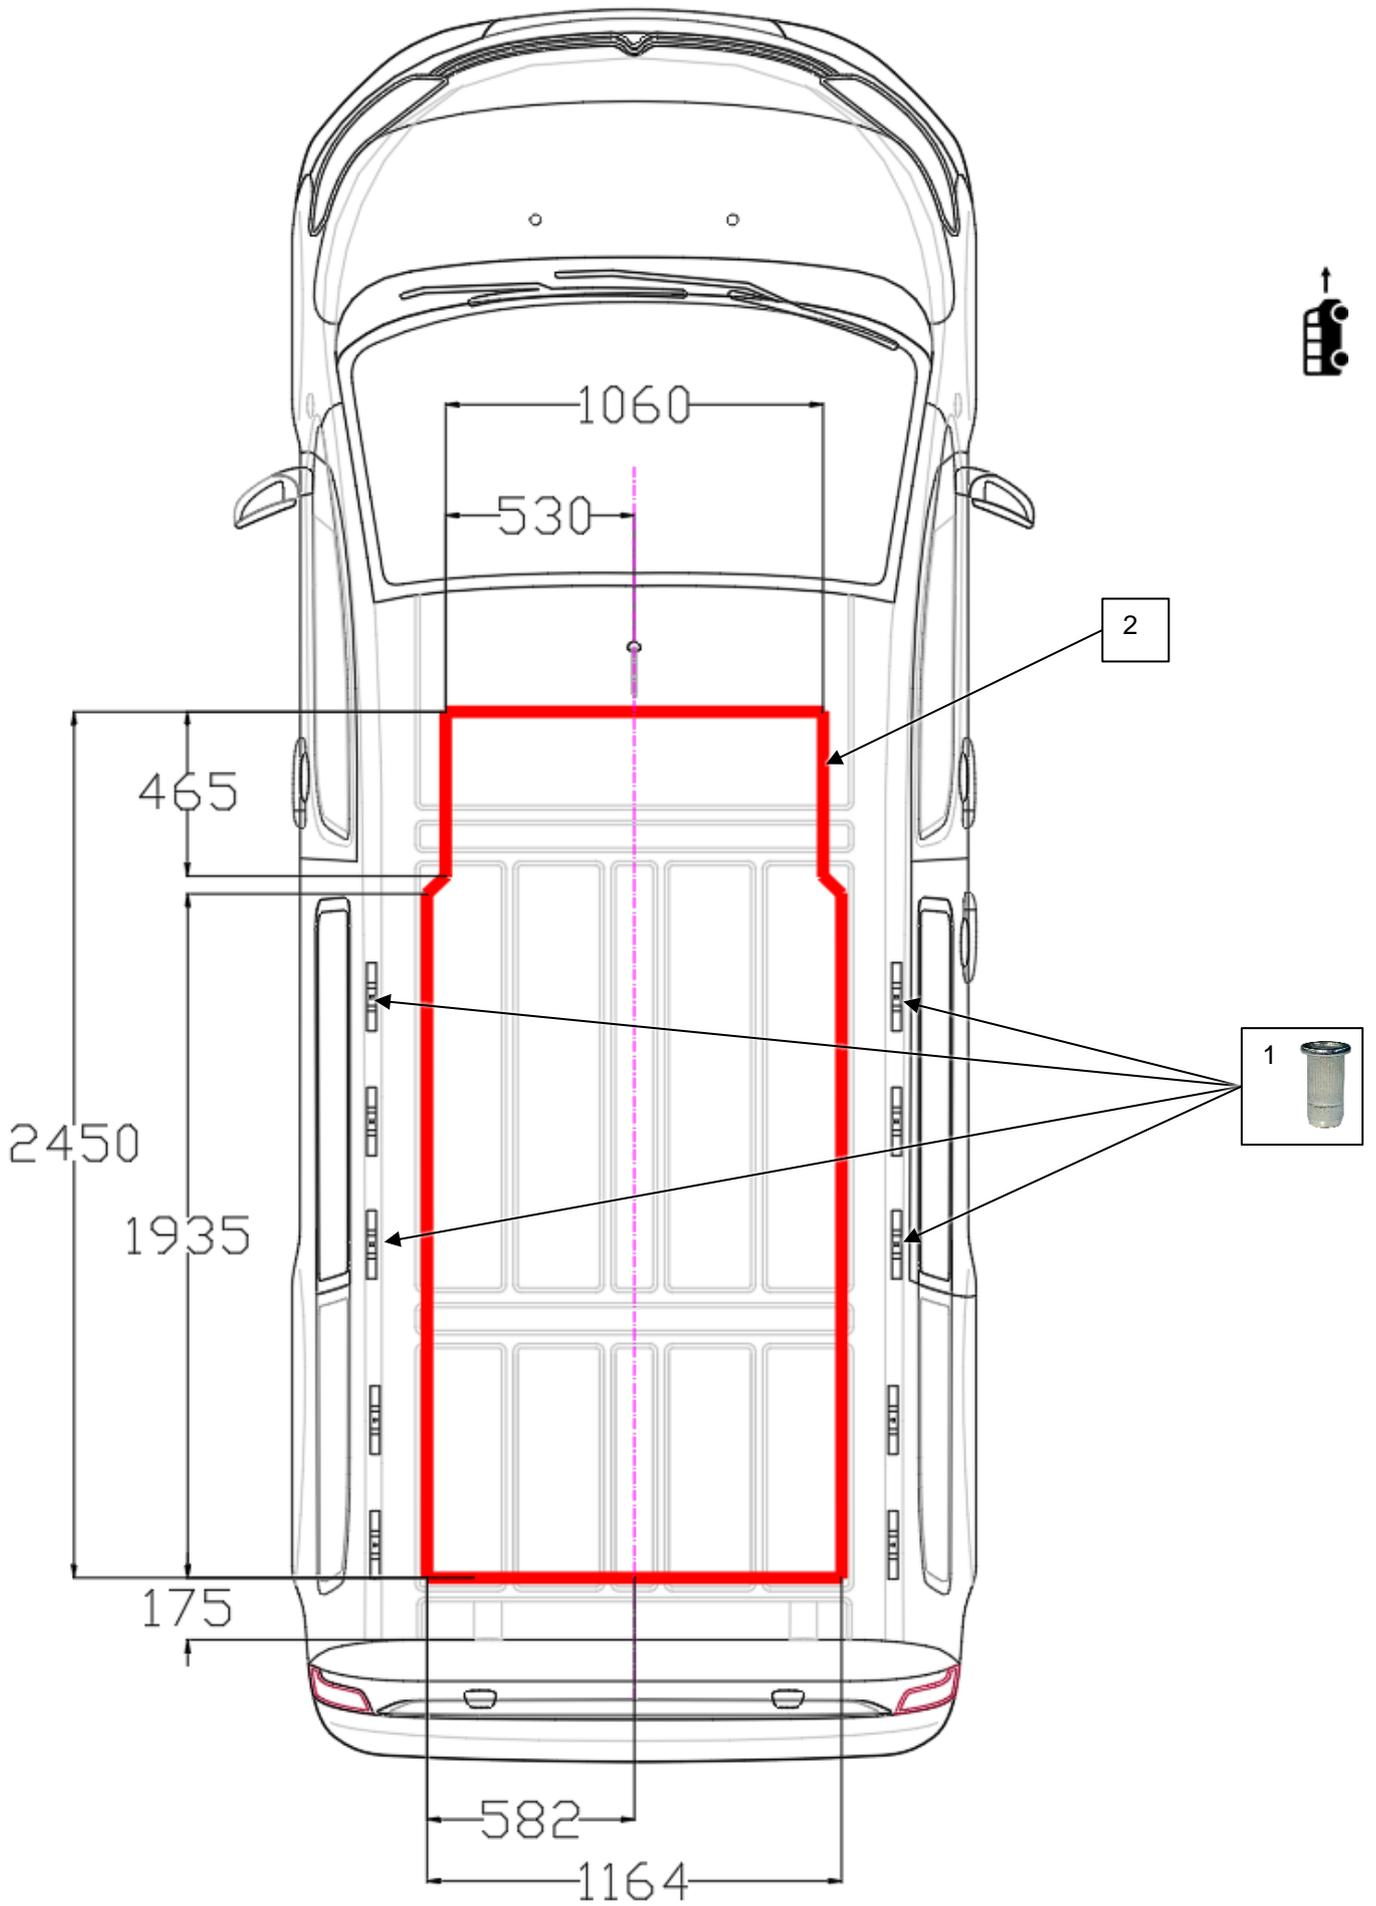

Fig. 2-1: Roof cut-out [A0003986]
- Mark the dimensions (2) on the vehicle roof according to the drawing Fig. 2-1 or using a template (item no. 10583-4, can be fixed to the rivet nuts) and then check.